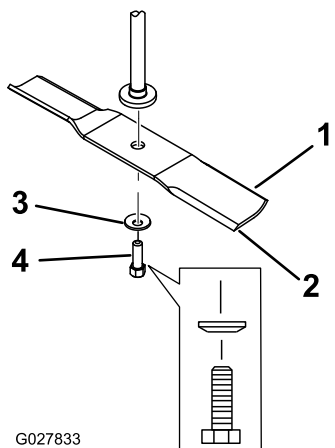

Figure 50
Hold the blade end using a rag or thickly-padded glove. Remove the blade bolt, curved washer, and blade from the spindle shaft (Figure 50).
1. Install the blade onto the spindle shaft (Figure 50).
2. Install the curved washer (cupped side toward the blade) and the blade bolt (Figure 50).